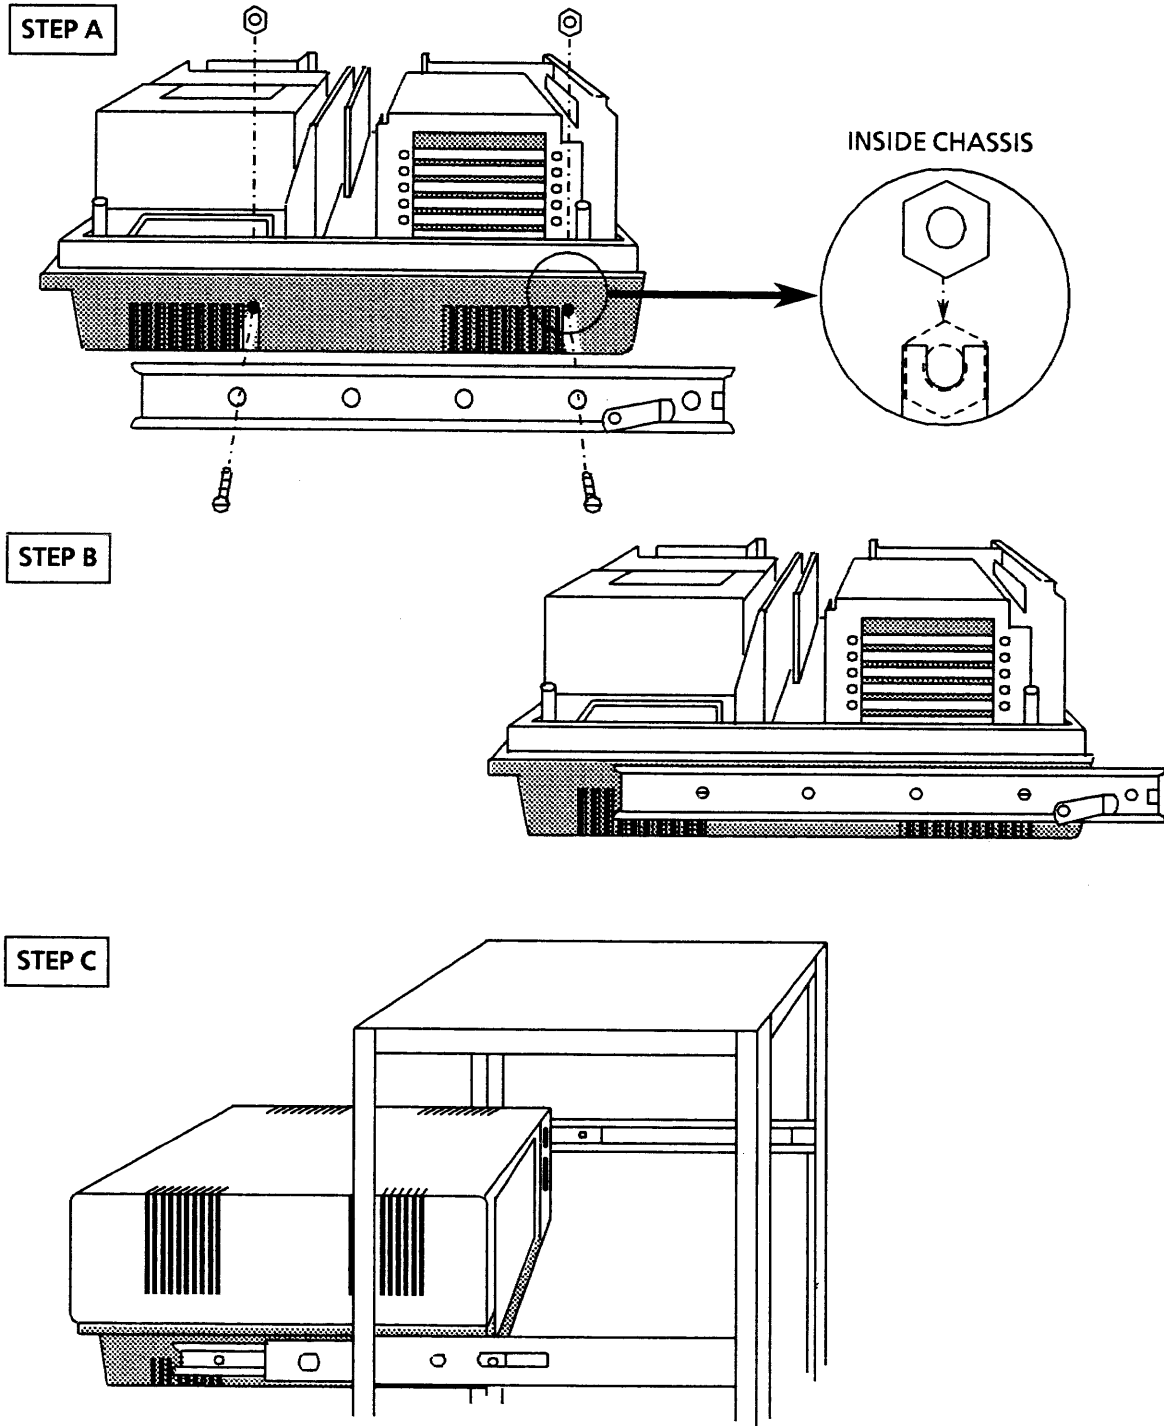

Figure 5-4. Rack-Mounting the System
1. Place the #10 ASA machine screw nuts in the nut holders located inside the system chassis. Figure 5-4, Step A, indicates the location of the nut holders.
2. Position one of the bars against the side of the system and pass the screws through the bar as shown in Figure 5-4, Step A.
3. Tighten the screws until the bar is secure, as shown in Figure 5-4, Step B.
2. Lift the system and slide it into the extended bars of the Chassis Trak slides, as shown in Figure 5-4, Step C.